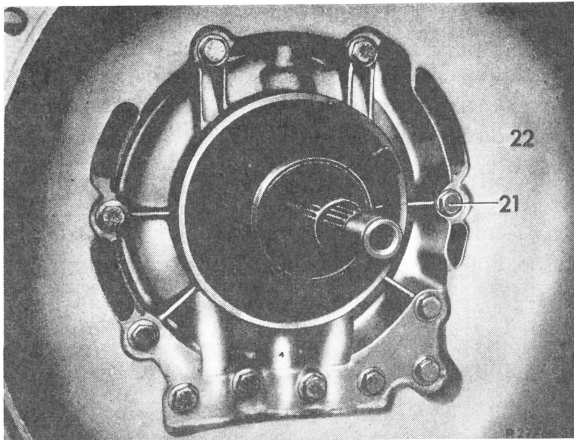

Fig. 10
**12** Swivel transmission on assembly stand in such a manner that the front transmission case faces upwards. Unscrew fastening bolts (21) for front transmission case (22) (Fig. 10).